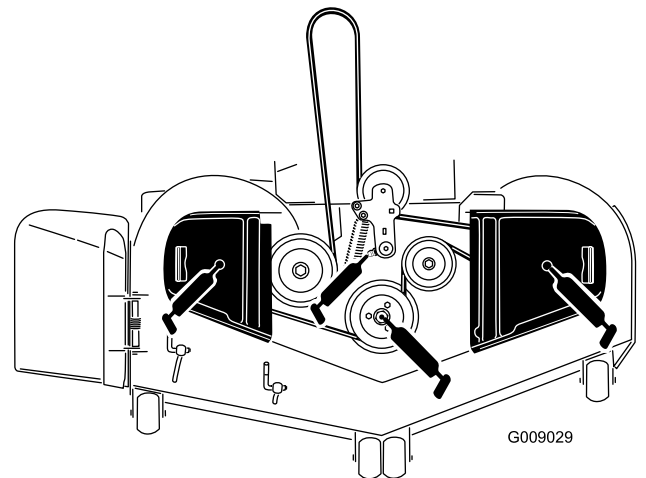

Figure 44
3. Grease the mower deck idler pulley pivot until grease come out the bottom (Figure 44).
4. Grease the 3 spindle bearings until grease comes out the lower seals (Figure 44).
5. Grease the drive belt idler arm (Figure 44).